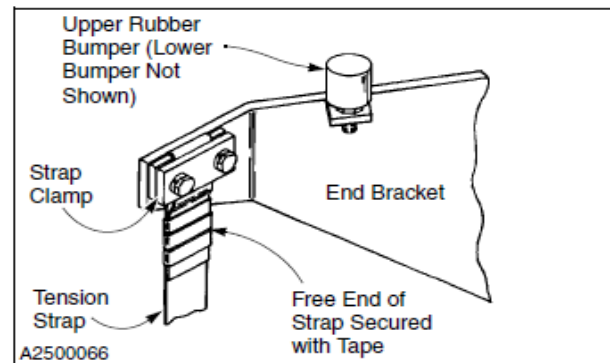

Figure 27
4. Check the rubber bumpers on each end bracket. The bumpers must be in place and tightly secured to the top and bottom of each bracket. Replace if necessary. (See Figure 27)